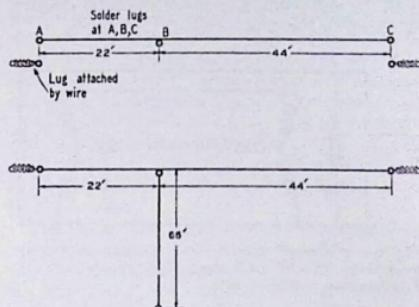

Fig. 6-5 — A timesaving portable antenna system. Three 66-foot lengths of wire are prepared in advance, making it possible to put up an antenna in jig time.
**T**HIS antenna "system" shown in Fig. 6-5 was developed for portable use as a means of